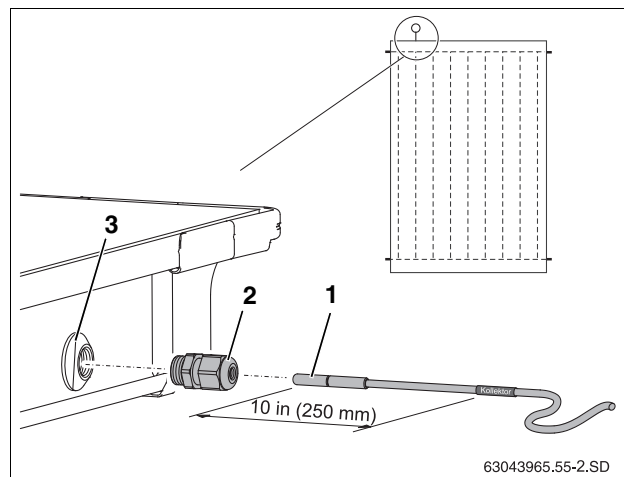

Fig. 48 Inserting the collector sensor into the sensor well
The collector sensor (Fig. 48, [1]) must be inserted into the sensor well as far as it will go (approx. 10" (250 mm)).
- ▶ Using a pointy device penetrate the membrane on the outside of the sensor well (Fig. 48, [3]).
- ▶ Screw strain relief (Fig. 48, [2]) into sensor well.
- ▶ Tighten strain relief by hand (Fig. 48, [2]).
If by accident the membrane (Fig. 48, [3]) of the wrong collector was penetrated, cap it by pushing a black collector connection cap onto the well. For that the nut installed at the outside of the well must be removed.